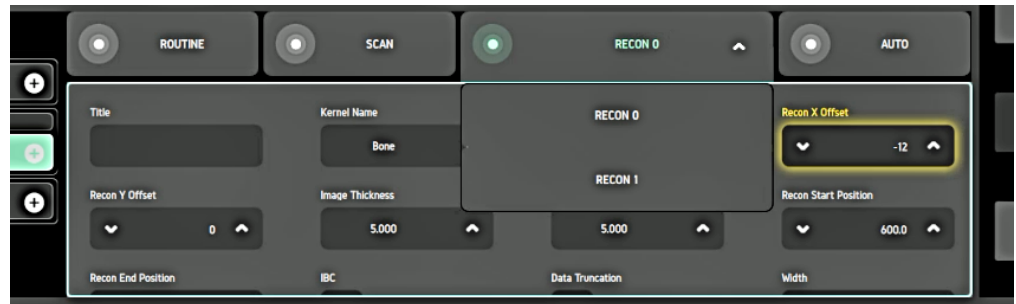

FIGURE 5.30 RECON Parameters Adjustment
- Use the pointer to adjust the second range box size or select **RECON** to display the RECON sets, select a set, then make adjustments to the RECON parameters (FIGURE 5.30).